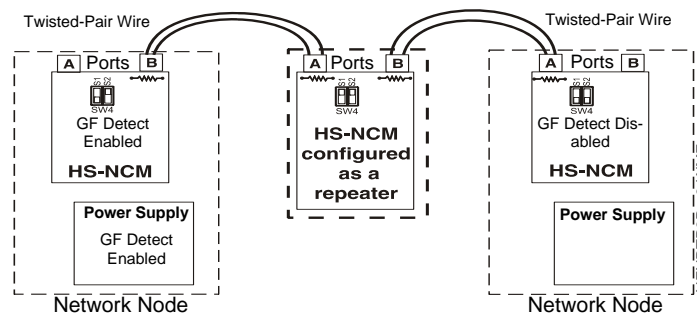
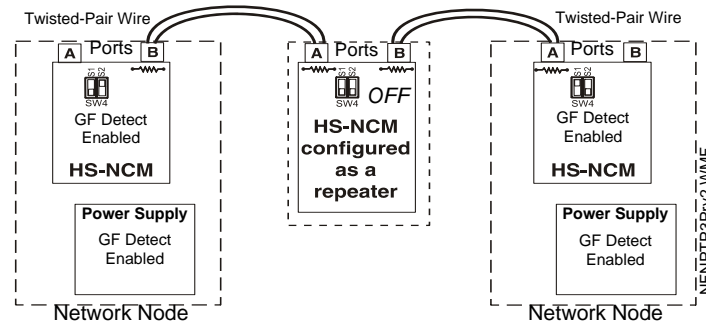

Figure 3.5 Point-to-Point (EXAMPLE 1)
Figure 3.6 Point-to-Point (EXAMPLE 2)
If an HS-NCM configured as a repeater is employed, two ground fault detection schemes are possible within a point-to-point configuration. One or both nodes (refer to Figure 3.5 and Figure 3.6) may provide ground fault detection, depending on the number of repeaters and the setting of the repeater ground fault detect switch (SW4) at each repeater (refer to EXAMPLES 1 and 2).
- EXAMPLE 2:** By setting the ground fault detect switch (SW4) on the repeater to the OFF position, both nodes may provide their own ground fault detection (refer to Figure 3.6). The left node provides ground fault detection up to the repeater, and thus must be one of the ground fault detection nodes defined on page 12. S2 (Port B) is set to the ON position to enable ground fault detection on the left HS-NCM. The Port A switch on the right HS-NCM is also set to the ON position, providing ground fault detection up to the repeater. This node must also be one of the ground fault detection nodes defined on page 12.